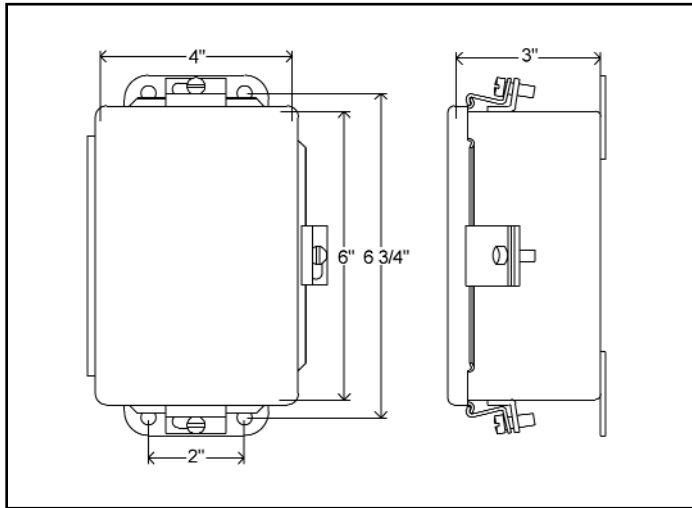

Figure 3A
- 4.1** The A5000B-DC switch enclosure is UL/CSA listed, rated NEMA 4, dust tight, oil tight, and water tight, painted carbon steel suitable for indoor or outdoor use. (see figure 3A, page 4)